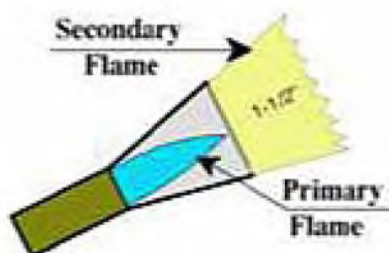

Fig. 1
3. Observe the flame in a darkened room, noting the primary (bright blue) and secondary (faint yellow) portions of the flame (see drawing fig 1.)